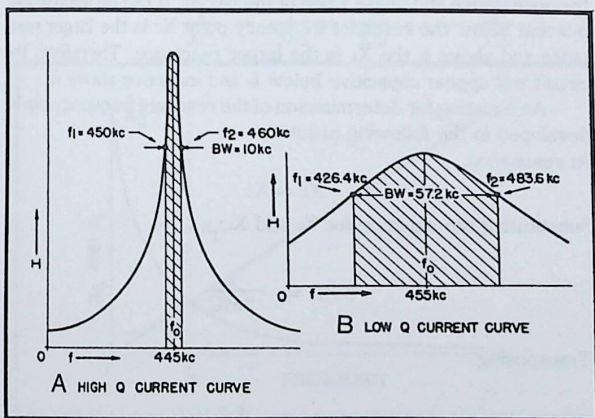

Fig. 8-7. High-Q (A) and low-Q (B) current curves showing bandwidth.
lower cutoff frequency. In Fig. 8-7 these points are labeled f_1 and f_2 . The range of frequencies between these two points comprises the bandwidth. Figure 8-7 illustrates the bandwidths for high- and low-Q series resonant circuits. The bandwidths (B) may be determined by the equation $B = f_0/Q$, or center frequency divided by circuit Q. Bandwidth may also be determined by subtracting the lower cutoff frequency from the upper cutoff frequency, or $B = f_2 - f_1$.